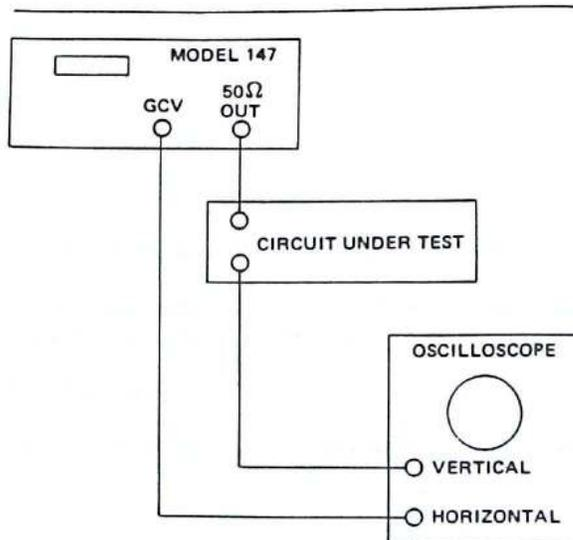

Figure 2-8. Frequency Response Test
These modes together with the GCV output can be used to perform frequency response tests and drive an X-Y recorder or oscilloscope for display of the frequency response. As an example, Figure 2-8 shows a circuit under test which is to be swept and the frequency response of the circuit displayed
1. Terminate the 50Ω output with 50Ω . Setup as in Figure 2-8 or 2-9 except bypass the circuit under test for this setup procedure.
12. Insert the circuit to be tested as in Figures 2-8 or 2-9 and observe the frequency response characteristics shown on the oscilloscope or recorder.